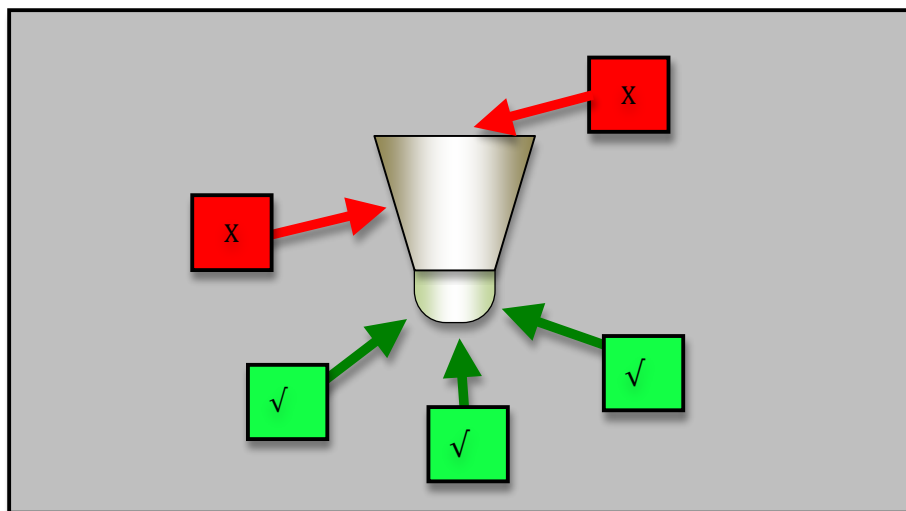

Figure 3: The legal (✓) and the illegal (X) shuttle hitting positions for service.
- 4.4.6. The robot that delivers a service must hit the base of the dropped shuttle with a racket. (Refer to Fig.3)